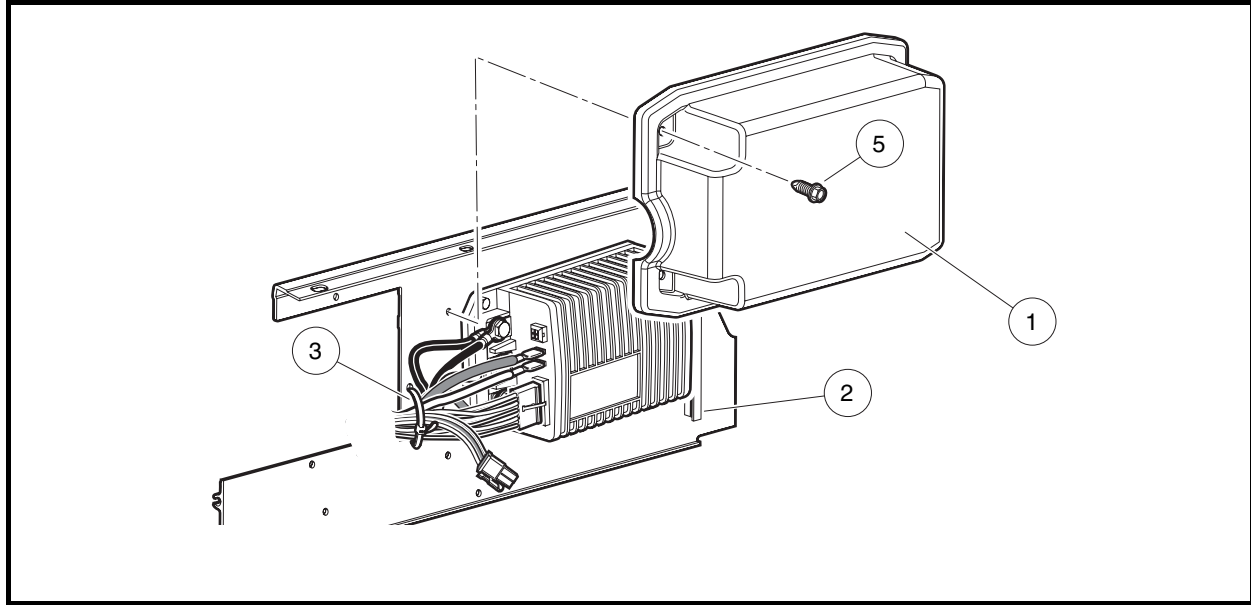

Figure 13-11 Speed Controller Cover
4. Disconnect all wires and multi-pin connectors from the speed controller (**Figure 13-11, Page 13-13**).
- Remove the three self-tapping screws (17) that hold the controller (6) to the component mounting plate and remove the controller from the vehicle.
- Install the three self-tapping screws (17) that hold the controller (6) to the component mounting plate and tighten to 60 in-lb (6.8 N·m) (**Figure 13-11, Page 13-13**).
- Using the wiring diagram, install the multi-pin connectors and all wires as illustrated. **See Wiring Diagrams, Section 11, Page 11-2.** Tighten bolts (1) to 9 ft-lb (12.2 N·m) (**Figure 13-11, Page 13-13**).